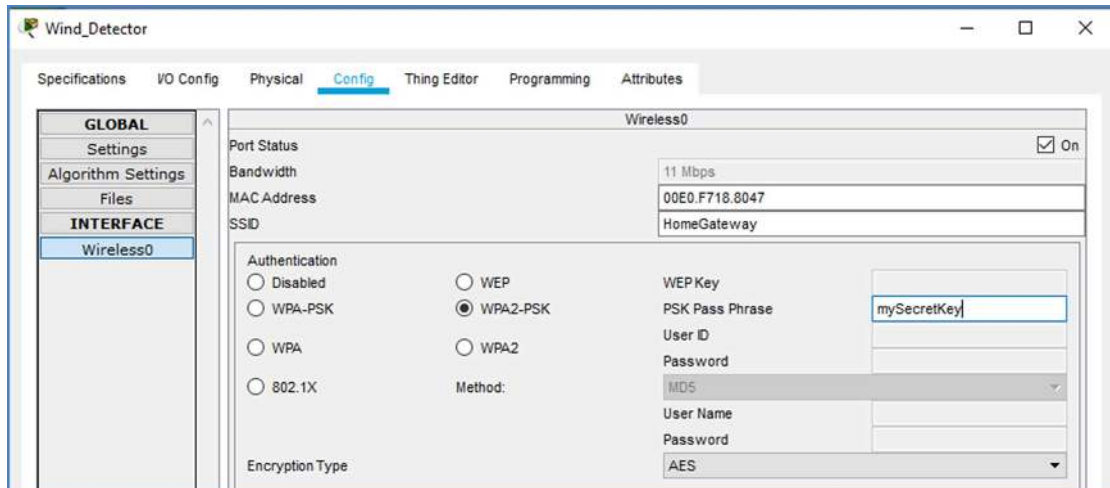

Figure 7.21: Wireless Settings for the Wind Detector
- The Wind Detector should automatically connect to the Home Gateway's SSID once these values are set (Figures 7.21 and 7.22).